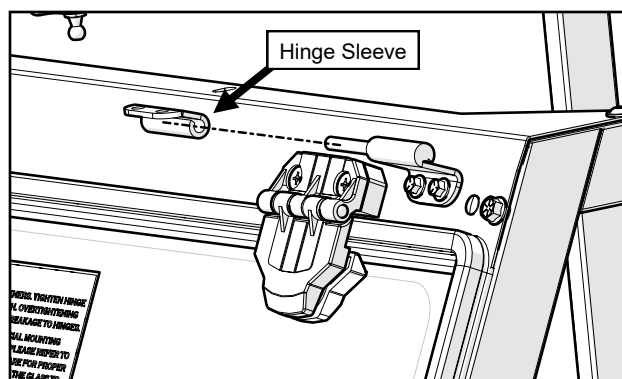

Fig. 3.3a (Left Hinge Sleeve Orientation)
- 3.3 Install the hinge sleeves onto the greased hinge pins as shown in Figures 3.3a and b.